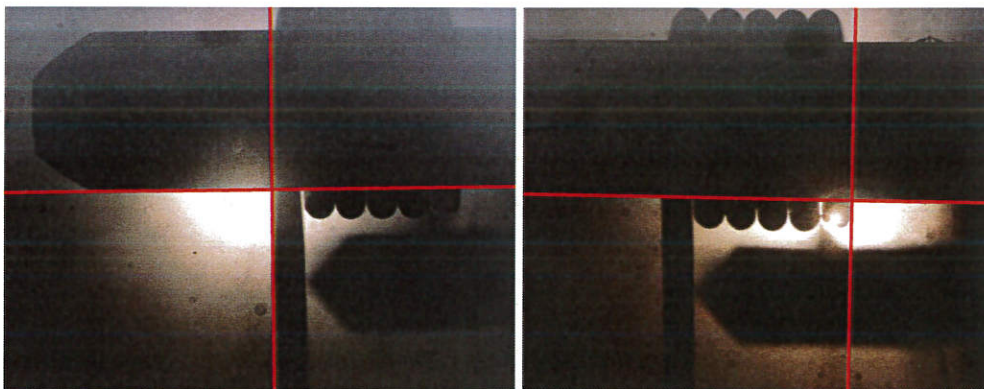

Figure 16: Line the axis with the pin then measure the width of the coil, shown with enhanced axis lines.
6.2.12. Body Width. Aline the axis line with the central shaft of the Measurement jig SW0380, move the X axis to outside edge of Leg 1, zero the X axis by use of the red button as shown in Figure 2: measure from the outside edge of Leg 1 to the outside edge of Leg 2, as shown in Figure 16: Press the button to enter the value as shown in Figure 2: